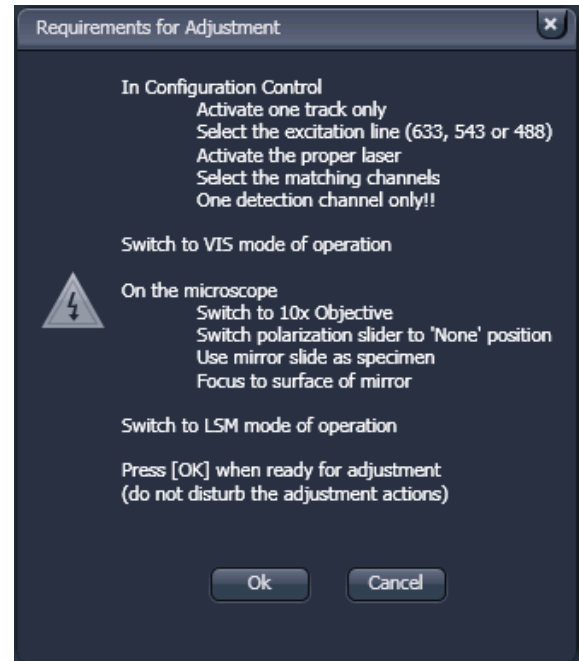

Fig. 4-128 Requirements for Adjustment window
- Meet the requirements listed in the **Requirements for Adjustment** window (Fig. 4-128). Press **Cancel** to abort the automatic pinhole adjustment. Press the **OK** button to proceed.